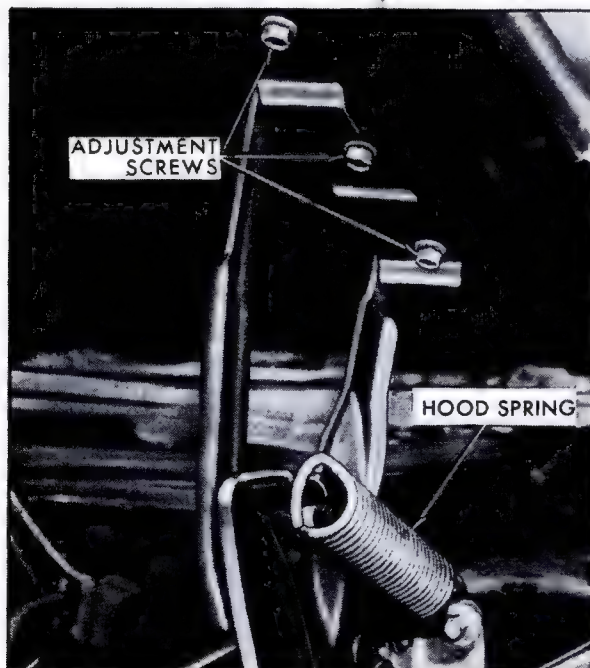

Fig. 11-3 Hood Hinge
a. Removal (Fig. 11-3)
b. Installation (Fig. 11-3)
1. Loosen hood attaching screws, three at each hood hinge, Fig. 11-3. Elongated holes in hinge